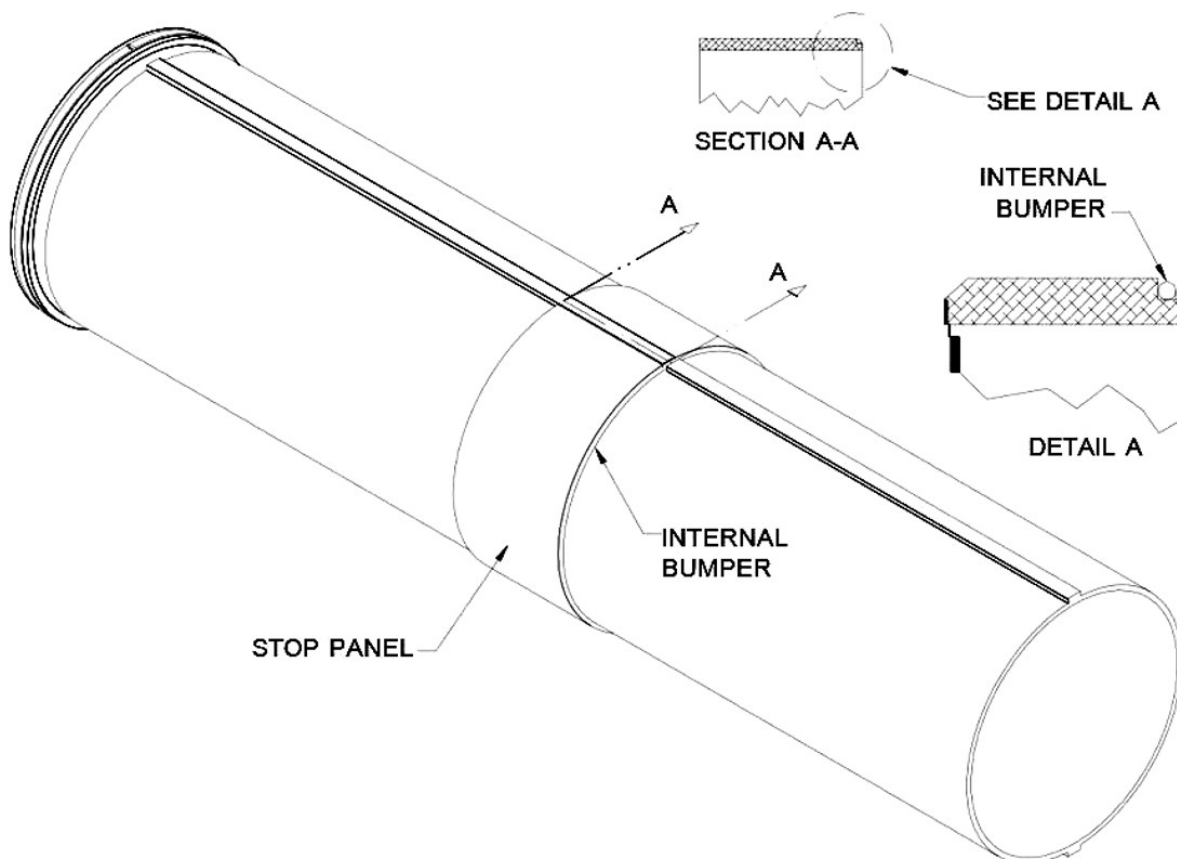

Figure 7-4 Replacing Internal Bumpers
2. Carefully stretch the new internal bumper over the end of the tube and insert it into the groove machined in the keys. The internal bumper should fit tightly against the tube immediately above the stop panel (Figure 7-4).